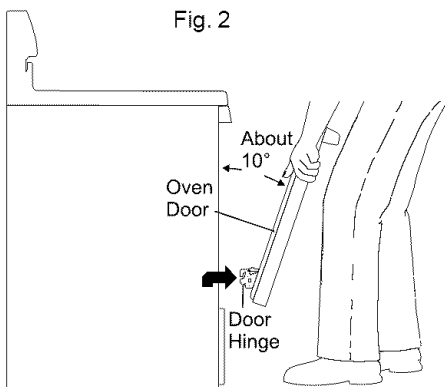

Fig. 3
The thermostat control is used to select the temperature of the warmer drawer. It is located on the control panel (See Fig. 3 on previous page). To set the thermostat, push in and turn the knob to the desired setting. The temperatures are approximate, and are designated by HI, MED and LO.
3. Firmly grasp both sides of oven door along the door sides (Do not use the oven door handle - See Fig. 3).
1. Firmly grasp both sides of oven door along the door sides (Do not use the oven door handle - See Fig. 3).